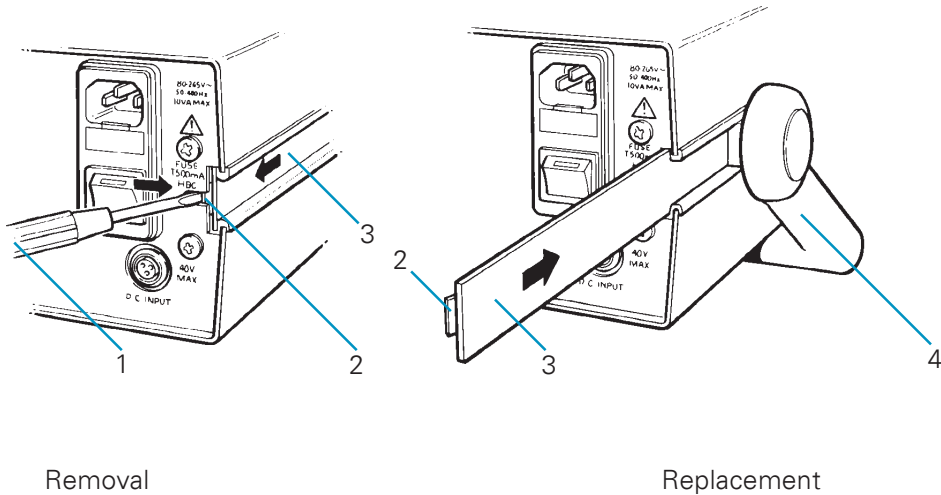

Figure 3.1 - Carrying Handle Removal
For free standing applications not requiring the carrying handle to be fitted, or in preparation for either rack or panel mounting, the carrying handle can be removed as follows, refer to Fig. 3.1.
- Insert a screwdriver (1) into one of the recesses in the rear panel as shown in Fig. 3.1, release the spring clip (2) retaining the side plate and slide the side plate (3) out approximately 10 mm.
- Release the corresponding side plate on the other side of the instrument in a similar manner and then slide both side plates out together, complete with carrying handle (4).
- Ensure that the side plates (3) and handle/adaptor block assembly are stored in a safe place. It is recommended that for safe storage, the side plates be re-inserted in the side channels of the instrument.